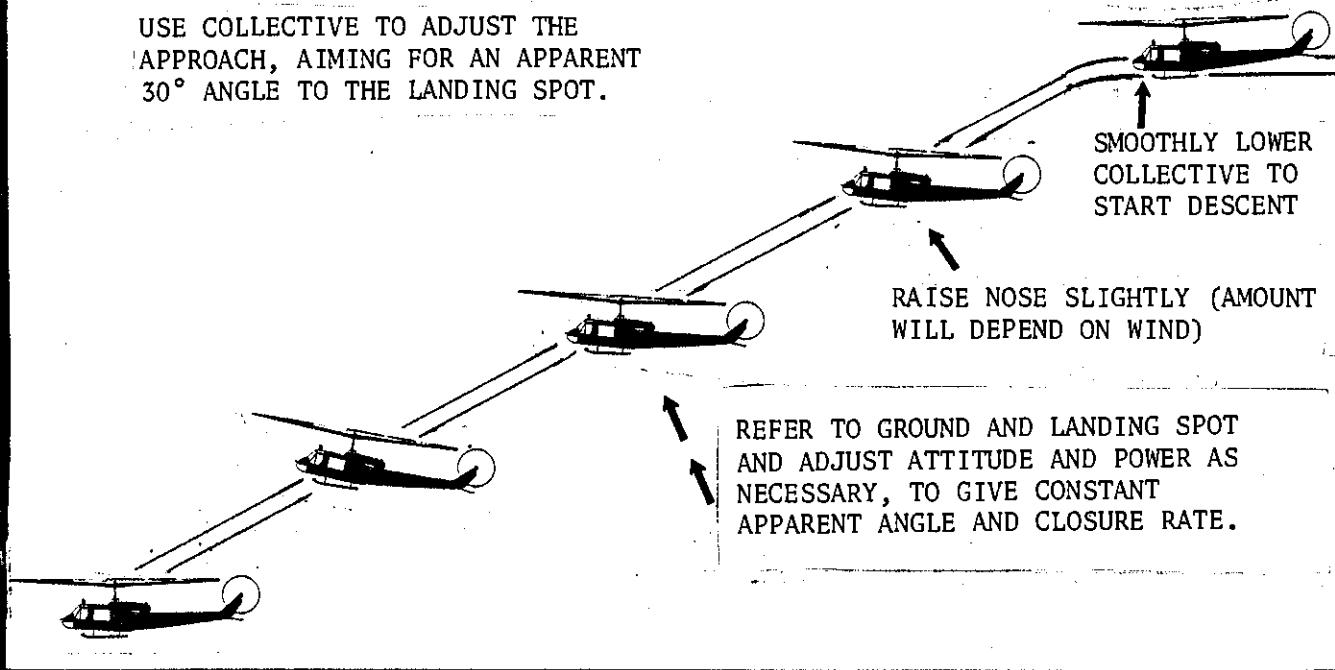
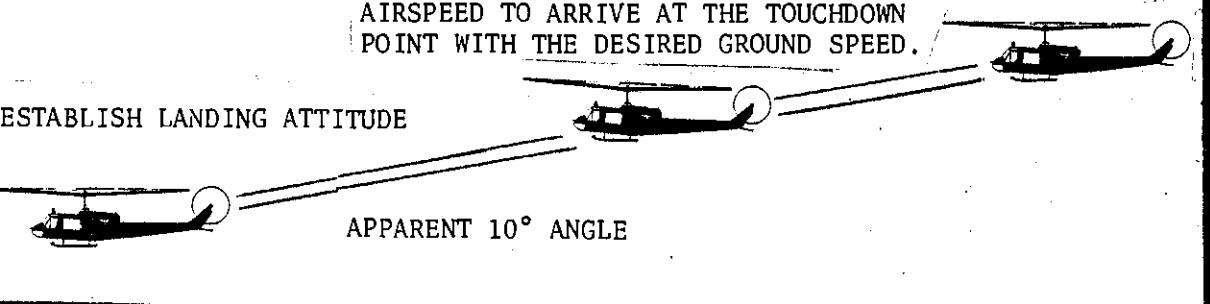

Figure 3-2. Normal Approach
Figure 3-3. Shallow Approach (Slide Landing)
j. Normal/Shallow Approach. The only difference between these approaches is the apparent angle. They are both flown in the same manner. As its name implies, the NORMAL APPROACH is the one most normally utilized, (see figure 3-2). The SHALLOW APPROACH is a type that is used for Hydraulic Power System Failure, Manual Fuel Operation, etc., (see figure 3-3).
(1) Required:
n. Slide landing. The slide landing is normally used in conjunction with a shallow approach (see figure 3-3).